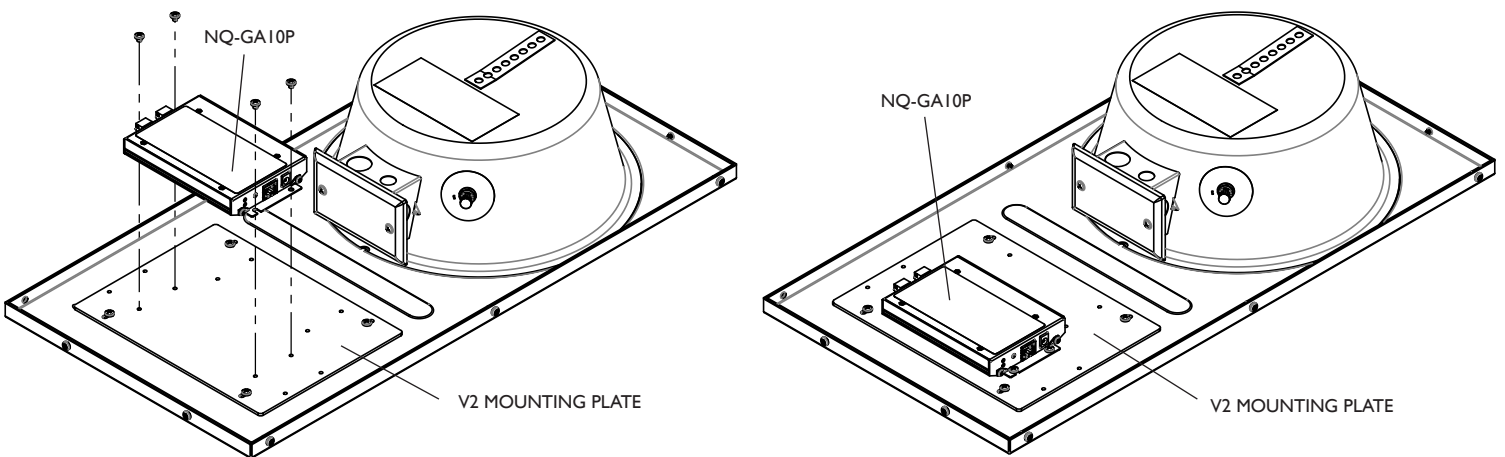
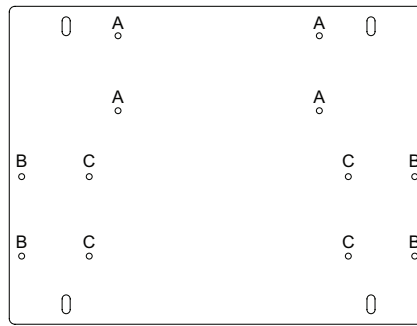
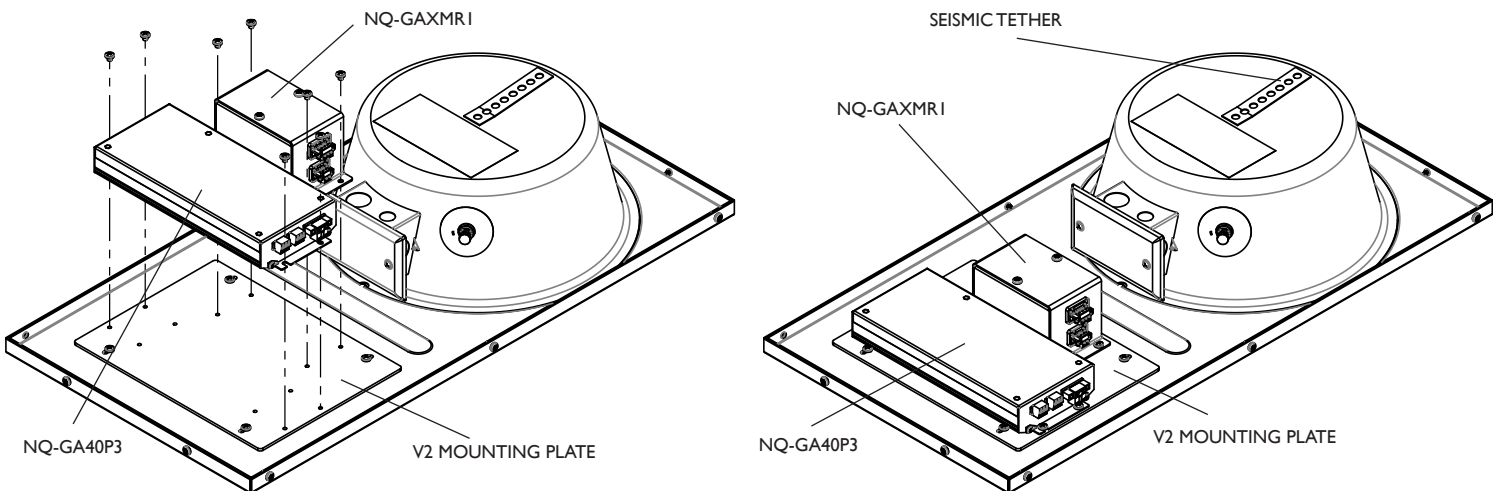

Figure 2: Mounting Intercom Module (NQ-GA10P shown)
Figure 3: Mounting plate with holes marked for specific modules.
Figure 5: Mounting Intercom Module (NQ-GA40P3 shown) and NQ-GAXMR1
**Figure 2** shows the positioning for the mounting of the VoIP Intercom Module (NQ-GA10P) onto the speaker's mounting plate. For a closer look at the mounting plate, refer to **Figure 3**.
The placement of mounting holes varies per module (see **Figure 3**). They are as follows:
**Figure 5** shows the positioning for the mounting of both the VoIP Intercom Module (NQ-GA10P) and the Distributed Audio Transformer (NQ-GAXMR1) onto the speaker's mounting plate. Refer back to **Figure 3** for the placement of the mounting holes used for these two modules.